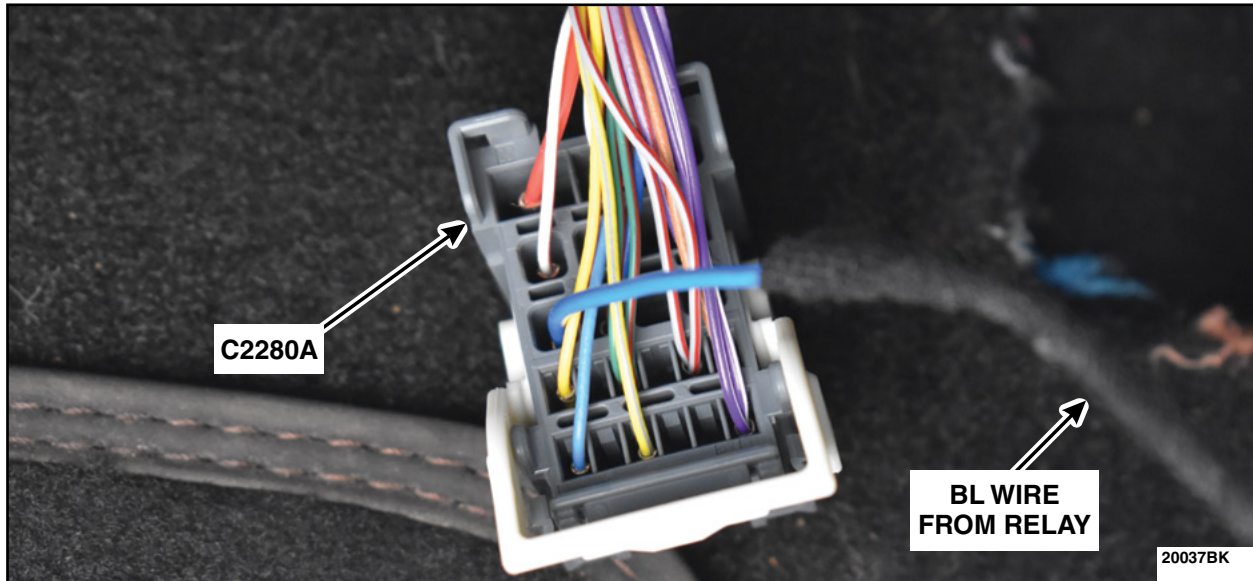

FIGURE 31
49. Install the BL wire from the relay into the open pin 16 of C2280A. See Figure 31.